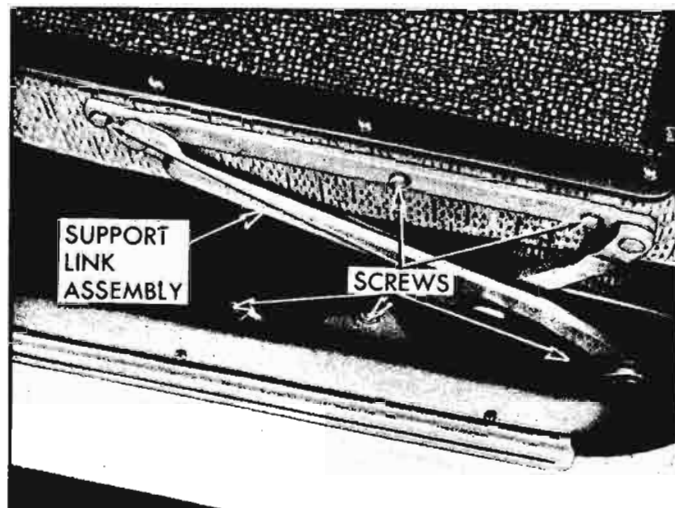

Fig. 10-77—Station Sedan Folding Rear Seat Back Support Link
2. Scribe location of link assembly on floor pan. Then remove screws (fig. 10-77) securing support link assembly to seat back assembly and floor pan and remove support link assembly.